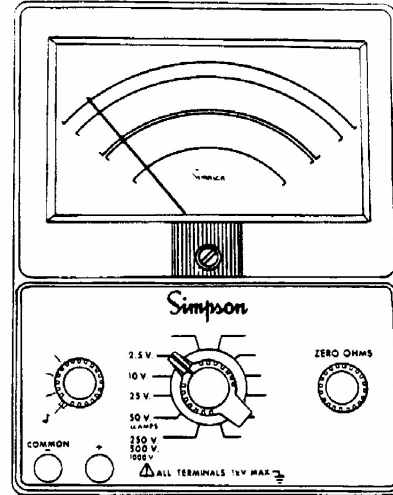

FIGURE 4-13. JACKS AND SWITCH POSITIONS FOR CONTINUITY TESTS
- a. Set the FUNCTION switch to the "Ω". Insert the black test lead into the COMMON (-) and the red test lead into the (+) jacks, (FIGURE 4-13).